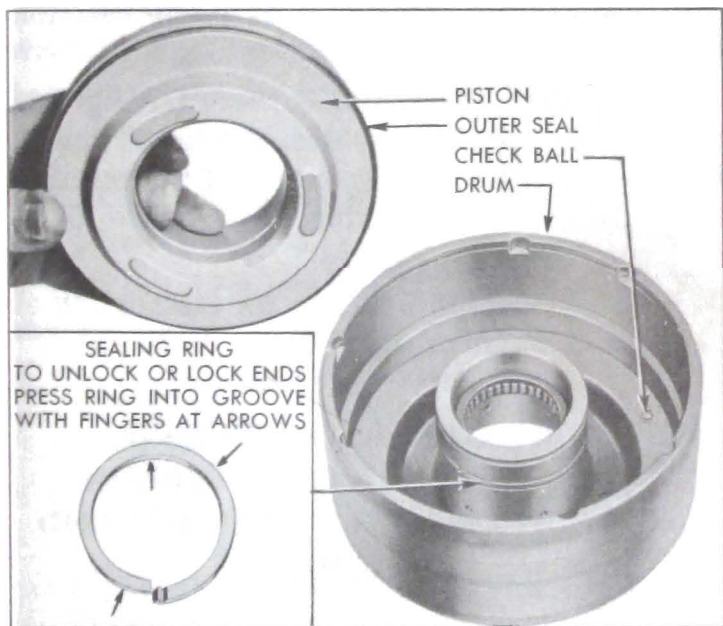

Figure 5-74—Removal of Clutch Piston and Oil Sealing Ring
3. Inspect drum for cracks or scores. Inspect oil sealing ring on hub of drum and replace it if damaged. To remove ring, apply finger pressure at points indicated by arrows in figure 5-74, in order to unlock the ends by depressing one end and raising the other. Use the same method to lock the ends during installation of new ring.